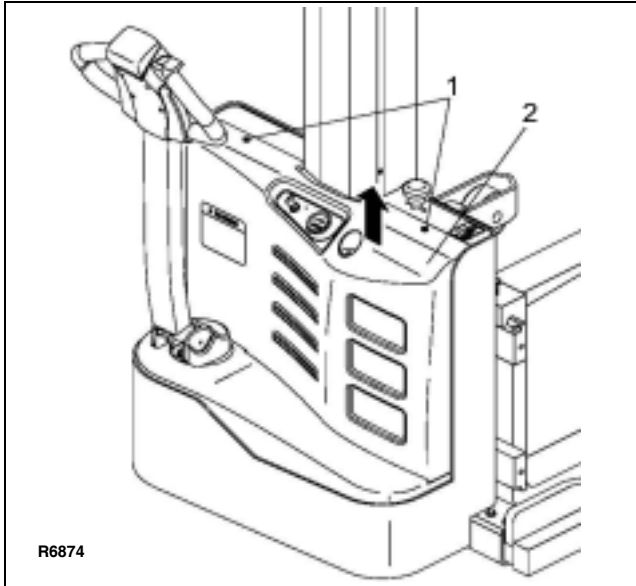

Figure 3-2 Battery Charging
2. Remove two screws (1, Figure 3-2) and remove cover (2).